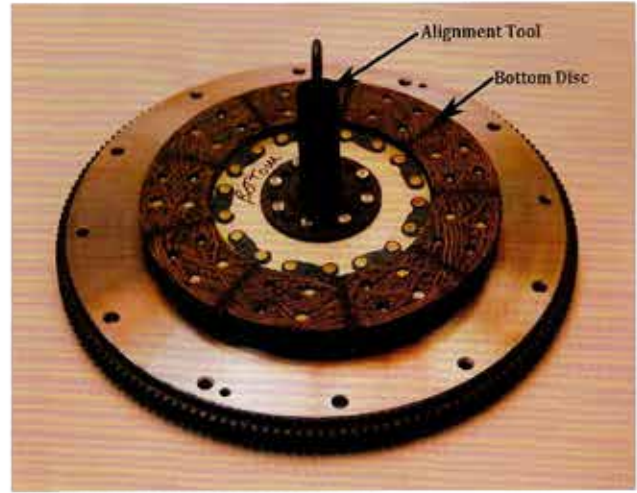

Figure 4
- 5) Install disc labeled "bottom" to the flywheel using the supplied alignment tool. Be sure the disc is installed with the label indicating 'flywheel side' is forward toward the flywheel. Figure 4